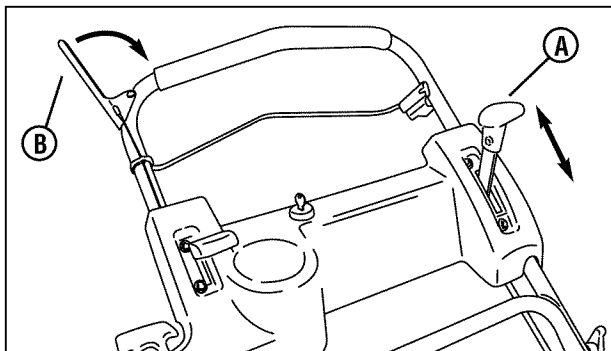

Figure 6: Mower drive controls
2. Move the ground speed control (**A**, **Figure 6**) to the desired speed position.